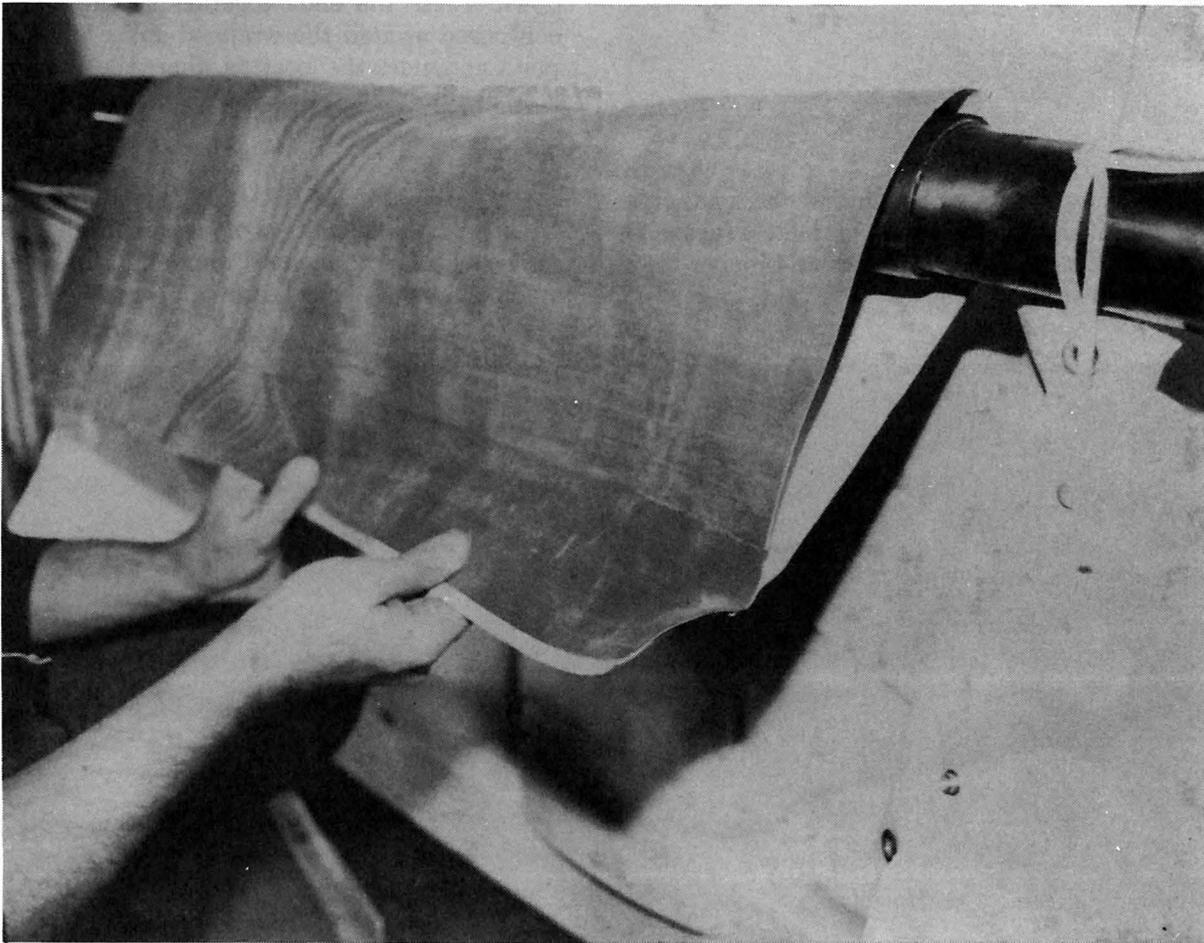
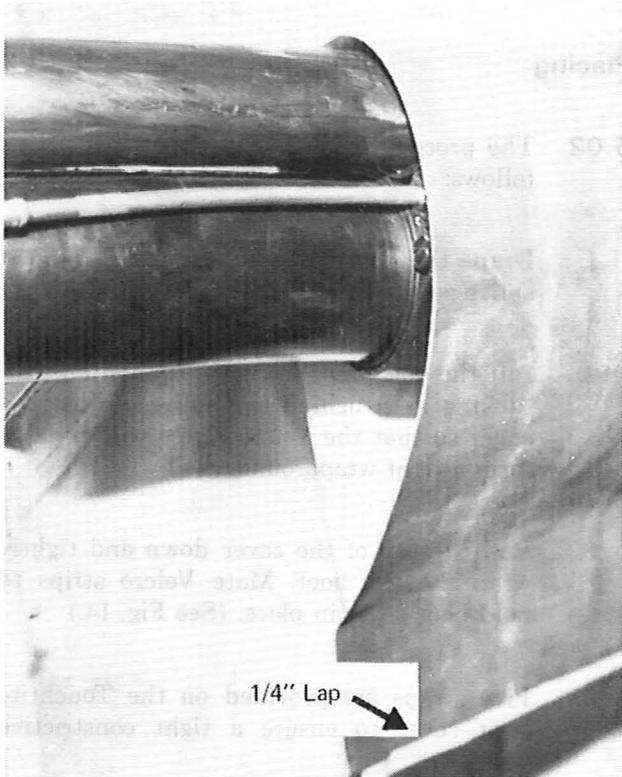

Fig. 6
Fig. 7
2. Remove the 3 1/2-inch strip of white separator from the **edges** hanging down. Starting at either end of the cover, work across the bottom, **carefully** pressing the adhesive surfaces of the CR tape together to **avoid** wrinkles (See Fig. 6.) Allow the rear surface to extend 1/4 inch below the front surface for soaping and testing purposes. (See Fig. 7.)